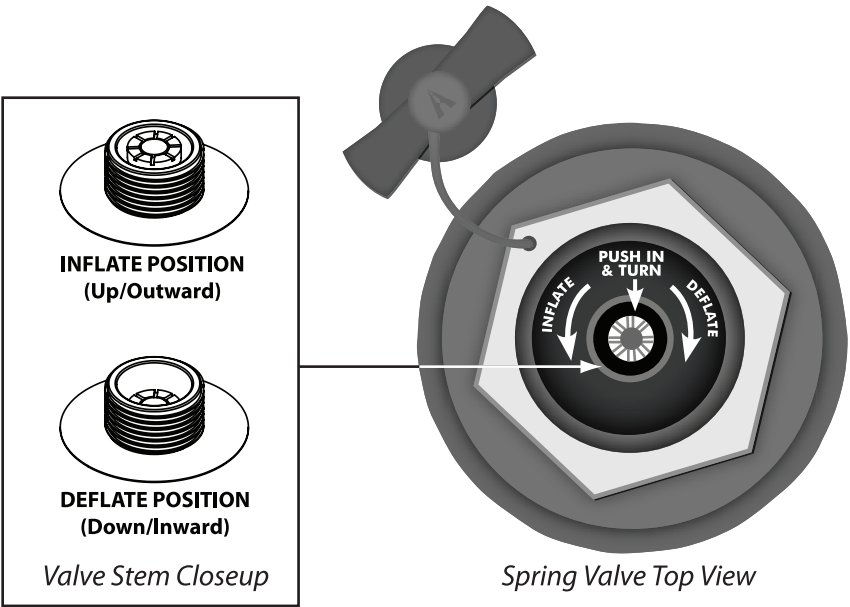

Figure 1. Inflate/Deflate Spring Valve
- Starting with Chamber 1, check to be sure that the valve plunger is UP or in the INFLATE position (*See Figure 1 on previous page*). Inflate until the kayak begins to lift off of the ground and take shape and appears to be halfway inflated.
- Move to Chamber 2 on inside of kayak. Check to be sure that the valve plunger is UP or in the INFLATE position (*See Figure 1*) and inflate until firm to touch (2.0 psi **ONLY**).
2. Push stems inward and rotate to deflate position (*See Figure 1*).